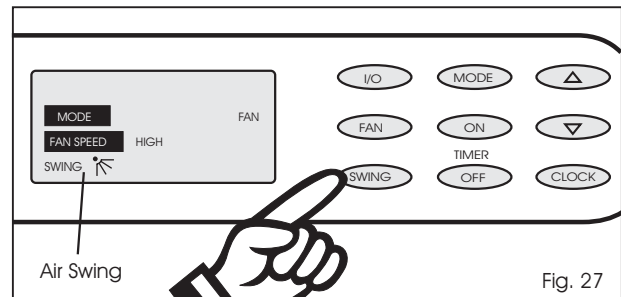

Fig. 27
- 4) Press the **SWING** key to activate the automatic air swing (oscillating) feature (the air swing symbol will appear in the **LCD** window). Fig. 27. To deactivate the swing feature, press the **SWING** key again.